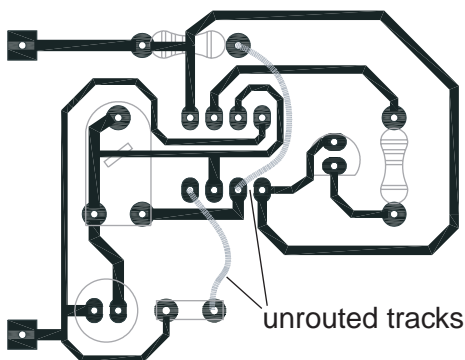
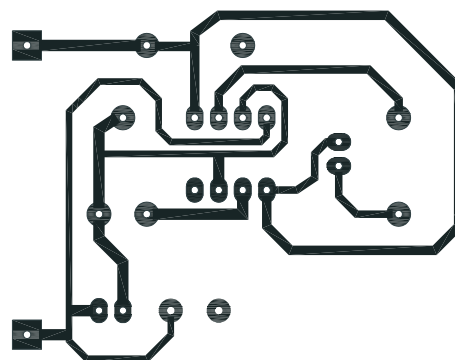

Fig. 11a
Fig. 11b
- (iii) Auto-routing will sometimes leave the last part of the circuit to be completed manually. Fig. 11a shows the position of two unrouted tracks and component outlines. Complete the layout on Fig. 11b to show a suitable route for each track which uses no links.